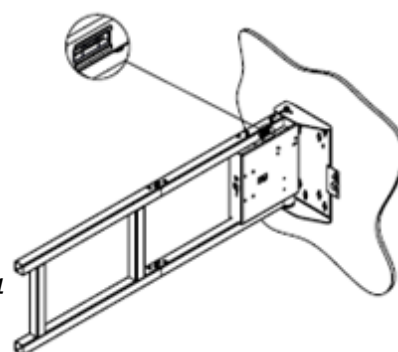

fig. 4
**NOTE:** Double check if the device is leveled using the provided spirit level (fig. 4).